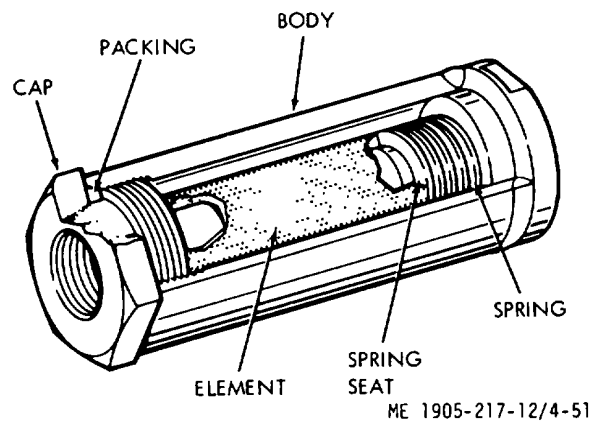

Figure 4-51. Filter, hydraulic starting system.
b. *Filter service (fig. 4-51).* Change the filter every 2000 hours of operation.
(1) Close outlet valve at reservoir (hull numbers 8500 thru 8519).
(2) Relieve pressure in lines on hull numbers 8520 thru 8560 and 8580 thru 8618.